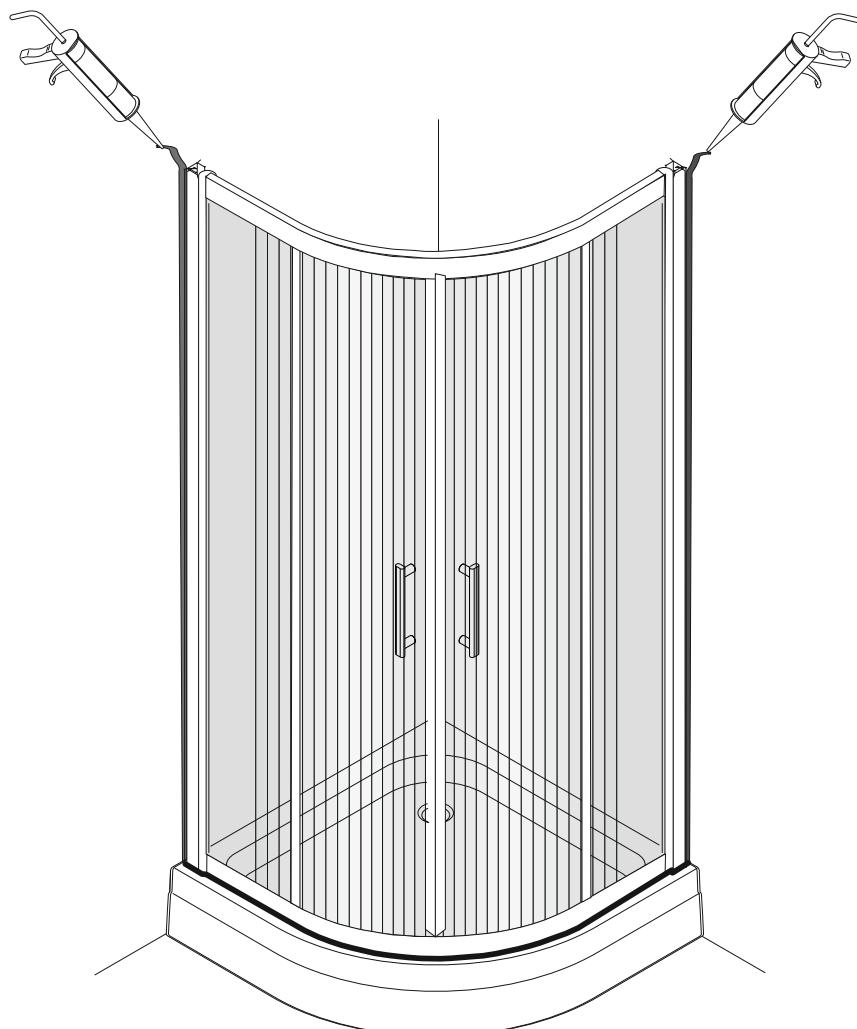

Fig. 13
12) Lay the glass cement between the wall and fixed door profile, bending rail with tray to complete the mounting. As Fig. 13
12) Siliconare nella parte esterna il box doccia. Vedi fig. 13